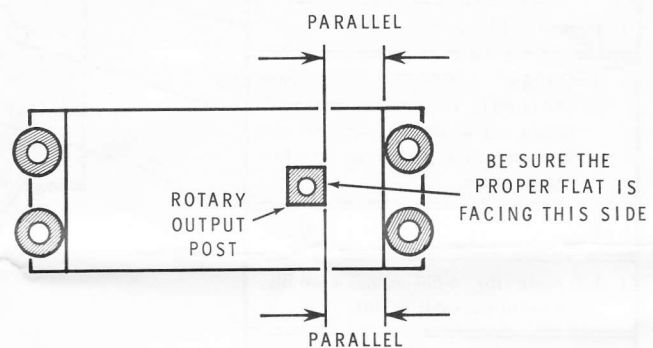

Figure 2
- () 4. Refer to the centering instructions on your servo and adjust the servo's centering control until the rotary output post is positioned as shown in Figure 2. After you properly center the servo, set it aside for use later.